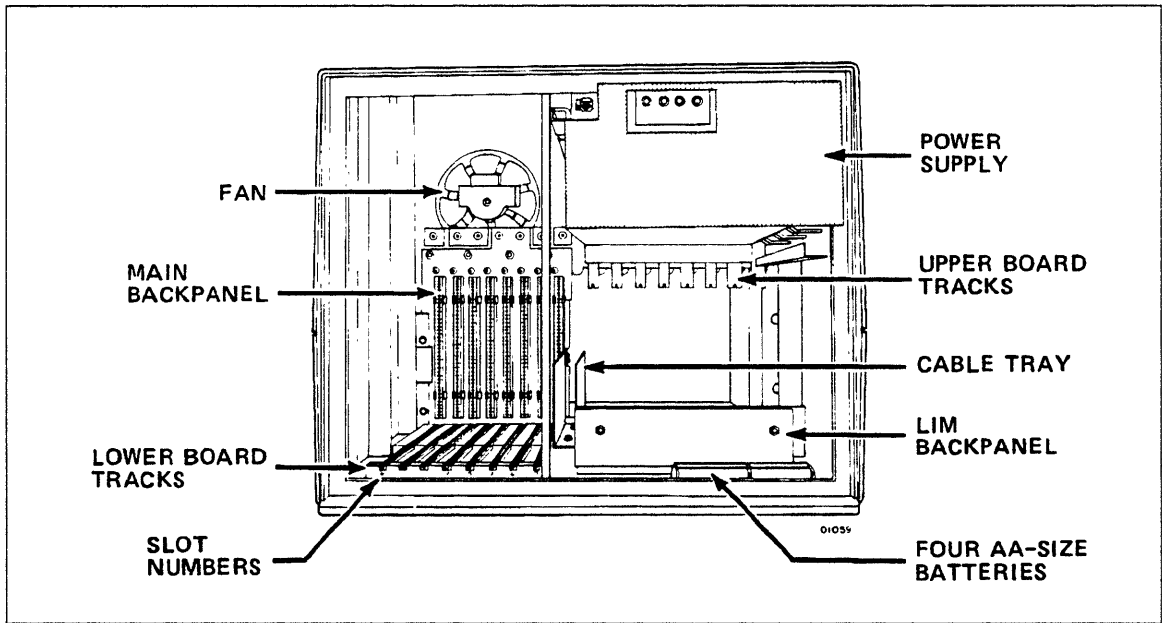

Figure 3-6. DI Cabinet Major Components - Front View
4. Check that the four AA batteries are installed in the battery holder (see figure 3-6). If you need replacement batteries, use only alkaline type.
5. Identify the components, in the DI cabinet, that are shown on figure 3-6. Close the front door.